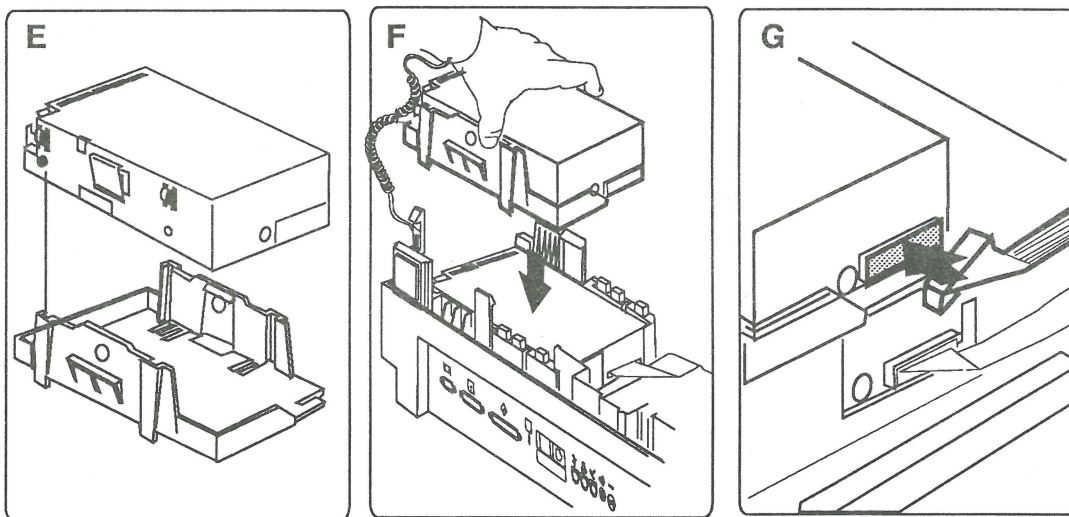

FIGURE 7
3. **Figure 7-A.** Disconnect the floppy disk drive cable from the disk drive.
4. **Figure 7-B and 7-C.** Unsnap the plastic latches at the front and rear of the disk drive and lift up and remove the disk drive.
5. **Figure 7-D.** Remove the floppy drive mechanism from the floppy retainer by depressing the two metal tabs at the sides of the unit.
1. **Figure 7-E.** Place the floppy drive mechanism into the floppy retainer.
2. **Figure 7-F.** Lower the disk drive into the subframe, align the four metal tabs, and press down until the plastic latches at the front and rear snap in place.
3. **Figure 7-G.** Connect the floppy disk drive cable to the disk drive.